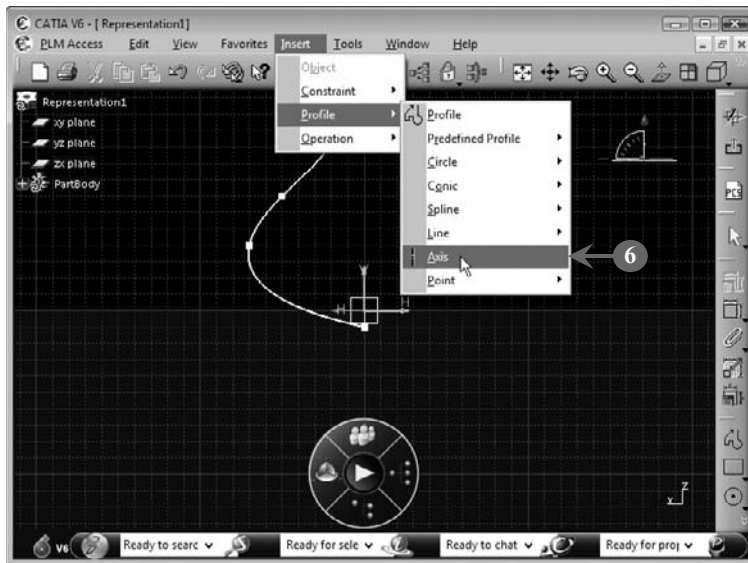

FIGURE 5.34
6. Select **Insert>Profile>Axis** from the menu bar to draw the revolution axis, as shown in **Figure 5.34**: